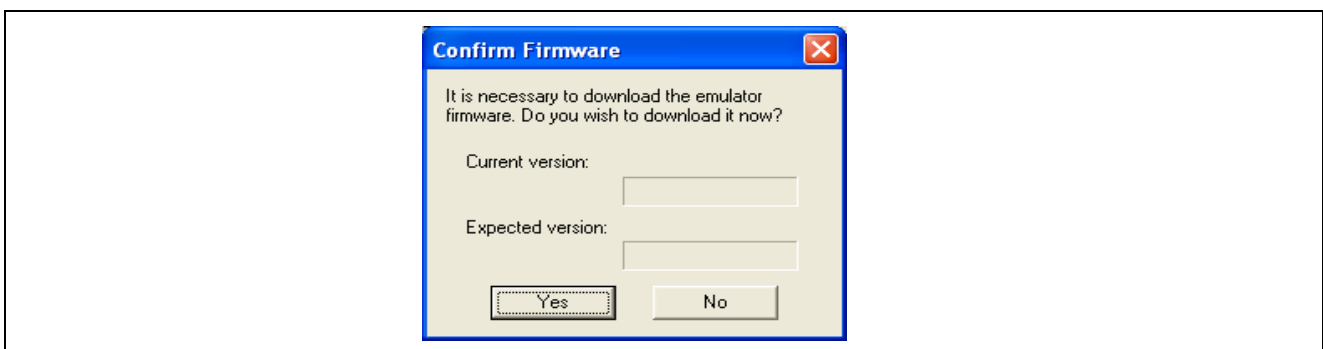

Figure 6.3 [Confirm Firmware] Dialog Box
- (3) Why does the [Confirm Firmware] dialog box shown in Figure 6.3 appear when I start up the debugger?